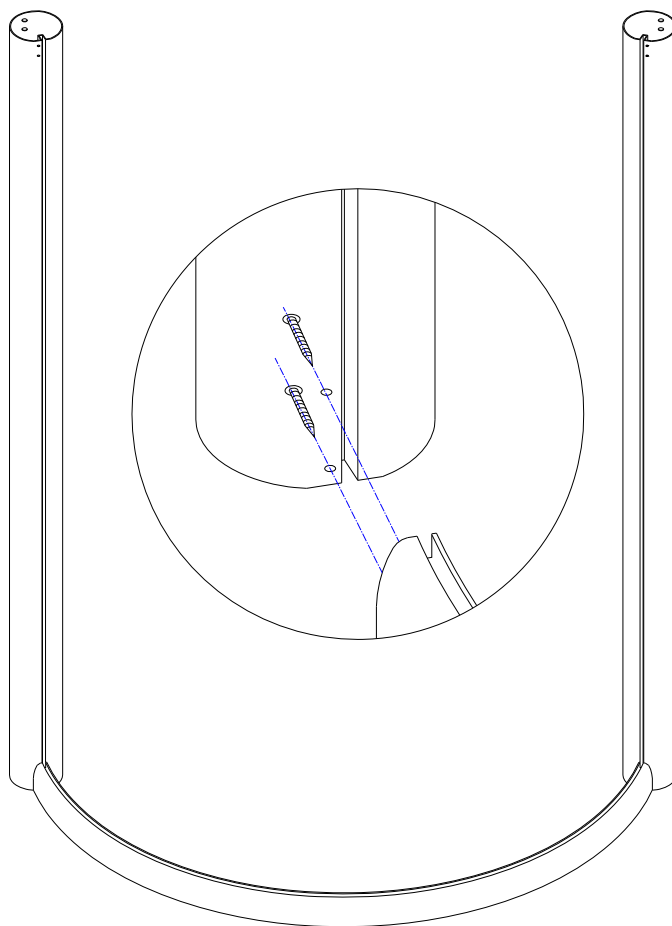

Fig 2
4. Secure the two **Vertical posts (4)** and the bottom **Guide rail (5)** with **Round head screws ST4.2x30 (15)**. See Fig 2 for details.